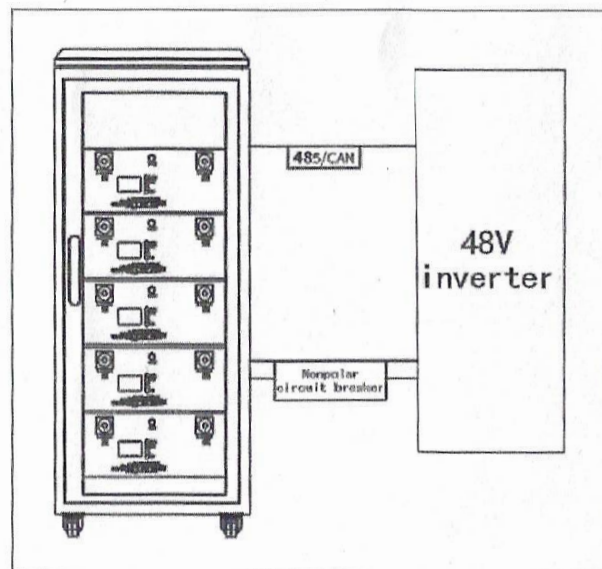

Figure 1
- Battery and inverter connection diagram, as shown in Figure 1.